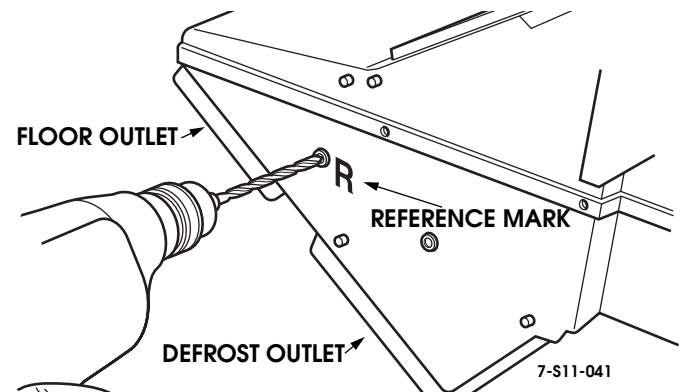

Figure 11-77: Drilling Door Travel Limiting Rivet
7. Remove floor door travel limiting rivet by drilling head, note the side of the rivet the door is resting on (Figure 11-77).
NOTE: Place a reference mark on the case to ensure that the rivet is placed in the same location during reassembly that it was removed from (Figure 11-77).